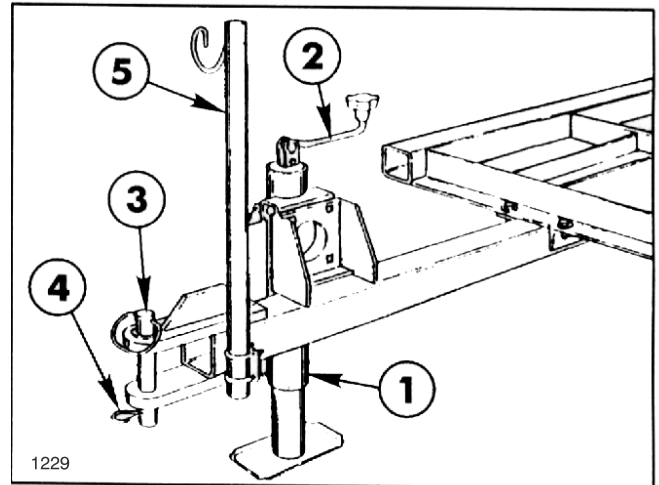

FIG. 3
3. With the Jack positioned as shown in FIG. 3, turn the Crank Handle to raise or lower the height of the Trailer's hitch yoke to be in alignment with the hitch on your transport vehicle.